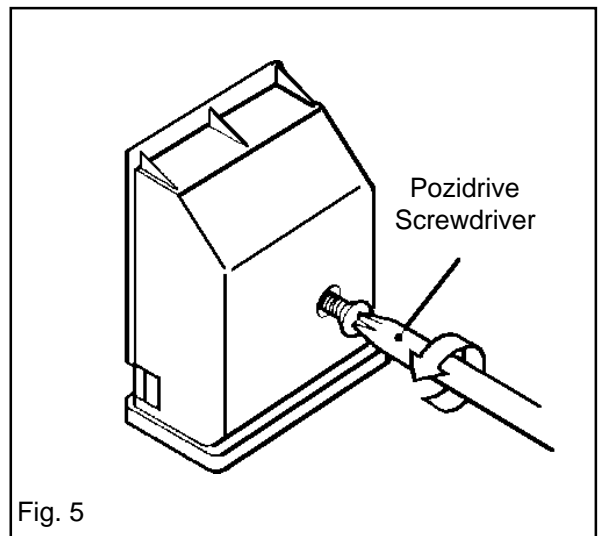

Fig. 5
- First remove retaining screw with pozidrive screwdriver. See Fig. 5.